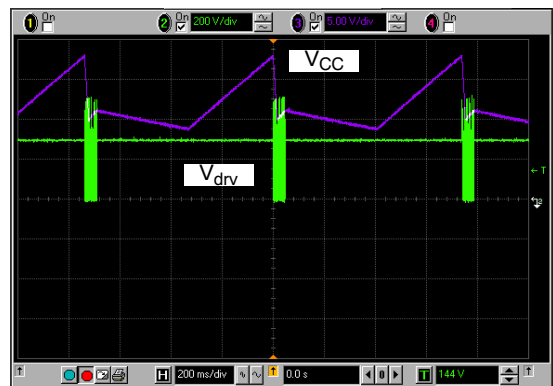

Figure 18. Hiccup Occurs with the B Version Only, the A Version Being Latched
2. B version: the circuit stops its output pulses and the auxiliary V_{CC} decreases via the controller own consumption ($\approx 600 \mu\text{A}$). When it touches the V_{CC(min)} point, the circuit re-starts and attempts to crank the power supply. If it fails again, an hiccup mode takes place (Figure 18).